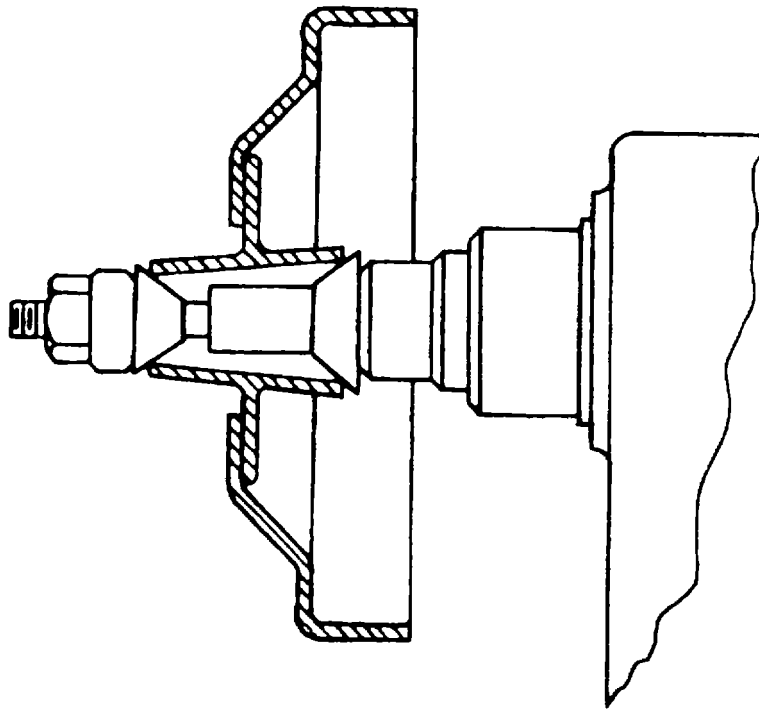

Fig. 1-3 - TAPERED HUB
- b. -Tapered Hub. Select the proper Tapered Cones to fit in drum hub. On some drums the Tapered Cones go in about 1/4 of an inch. Place Tapered Cone for inside of tapered hub onto Arbor followed by the drum and outside Tapered Cone. Place additional Spacers onto Arbor so that when the Arbor Nut is tightened at the end of the Arbor, the two Tapered Cones are drawn up tightly against the Tapered Hub. (See Figure 1-3)